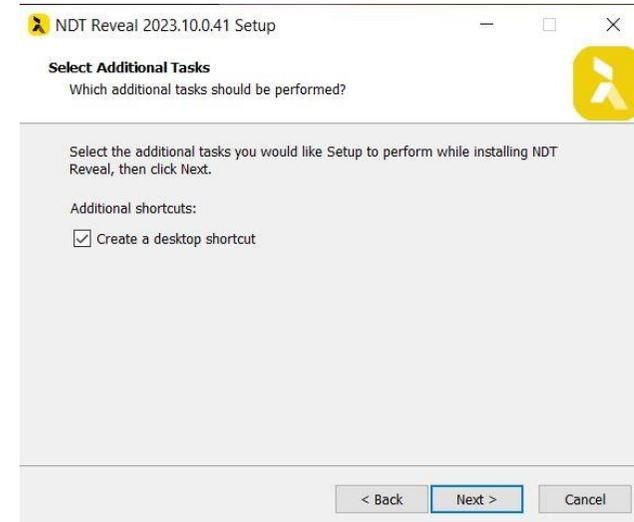

Fig. 5 Accept previous selection
5. Accept previous selection and press NEXT (Fig. 5),